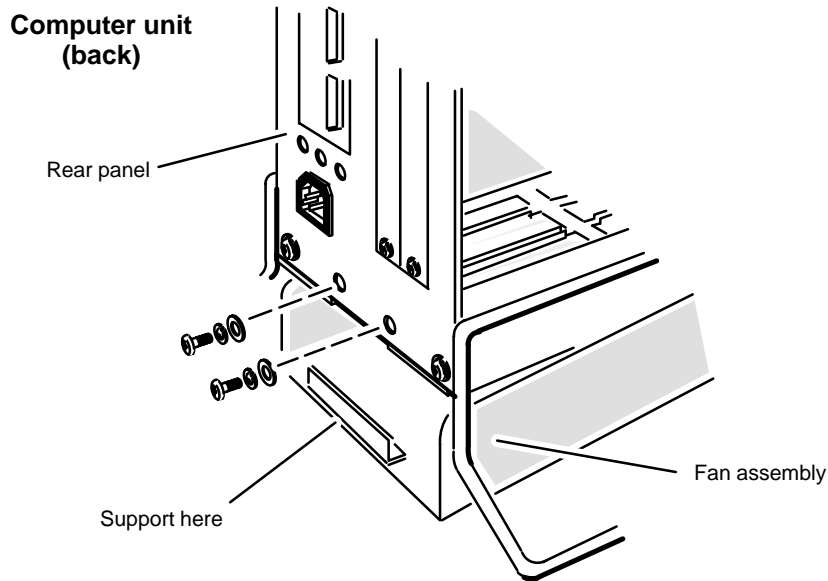

Figure 11-2 Releasing the Fan Assembly from the Back of the Computer Unit
2. To prevent the assembly from dropping when you remove the securing screws, support the bottom of the back of the fan assembly with one hand. Then use a medium Phillips screwdriver to remove the two screws and washers that secure the fan assembly to the back of the computer unit, as shown in Figure 11-2.